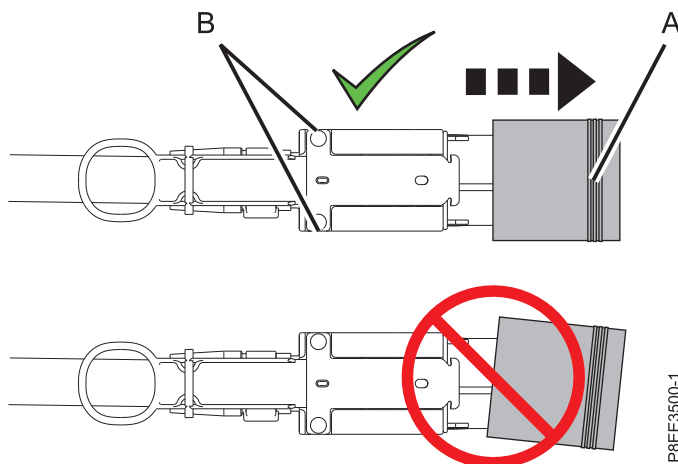

Figure 20. Removing the protective cover from the connector on the expansion drawer cable
- b. Remove the protective cover from the connector on the expansion drawer cable. Hold the cable housing **(B)** on the short edges with the index finger and thumb on one hand. Then, grasping the cover on the long edge **(A)** with the index finger and thumb on the other hand, pull the protective cover off. See Figure 20.